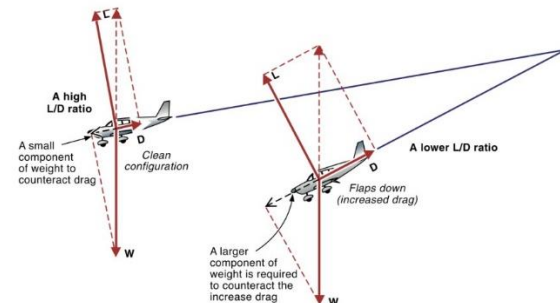

Figure 8a-1 The forces in a glide
■ Figure 8a-1 The forces in a glide